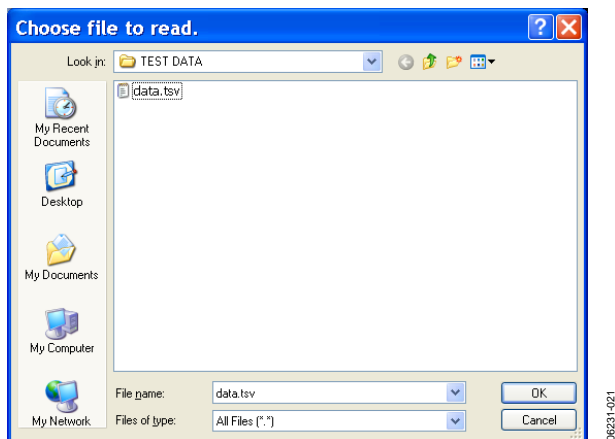

Figure 16. Load File Dialog Box
- **Load data:** load previously captured data or example files in .tsv (tab separated values) format for analysis (see Figure 16). (The default location for the example files is C:\Program Files\Analog Devices\AD7450A\AD7451\examples.)